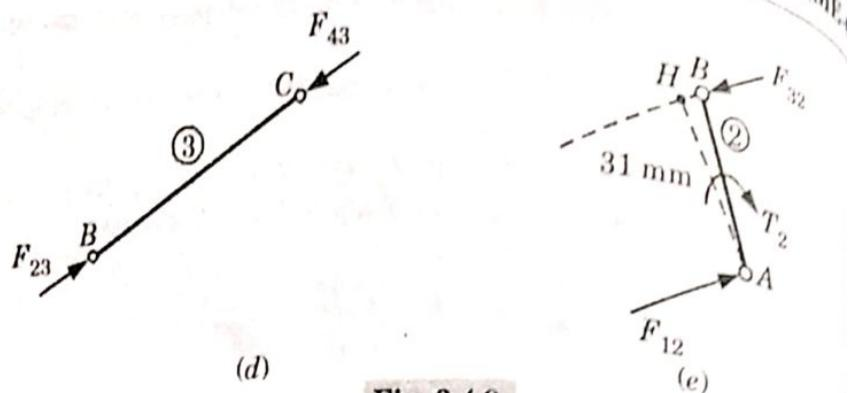

Fig. 3.4.2.
2. Draw FBD of all links with all applied forces on each links as shown in Fig. 3.4.2(a), (b) and (c).
3. Refer Fig. 3.4.2(a), link 4 = F_{34} acts along link 3 at point C and external force $F = 500 \text{ N}$ at point O. Taking moment about D,
4. We can also find magnitude of F_{34} by considering link 4 is a three force member as shown in Fig. 3.4.2 (b). Therefore extend line of action of force F_{34} and F intersect at point G. Join GD which gives line of action of force F_{14} . Now draw closed force polygon of F , F_{34} and F_{14} in which magnitude and directions of F is known and only directions of F_{34} , and F_{14} is known.